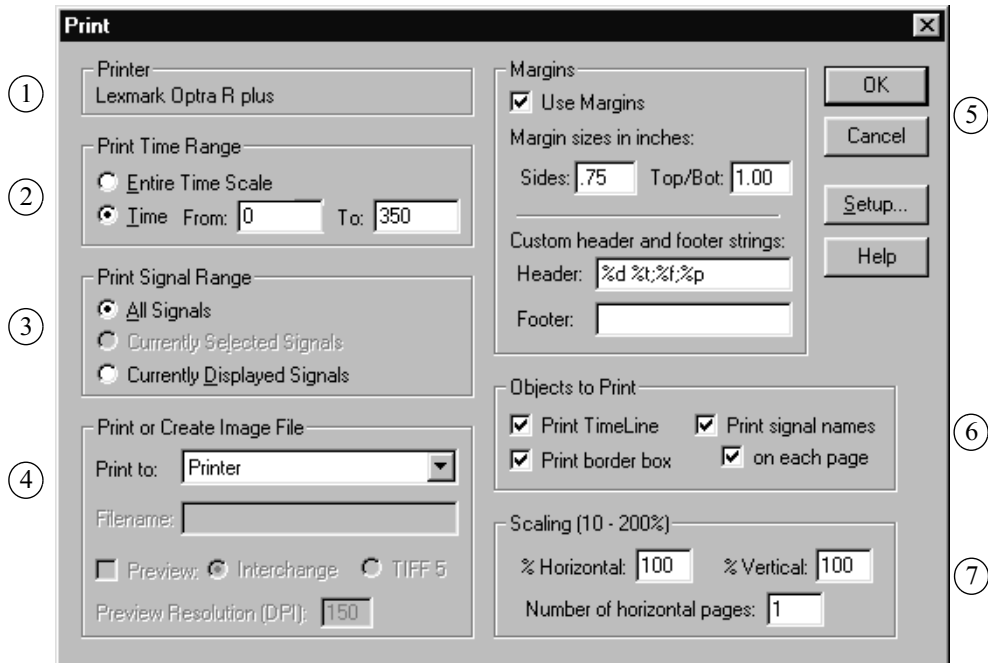

Figure 9.1 Print Dialog
- Choose the **File > Print Diagram** menu option in the timing window. This will open the *Print* dialog (see Figure 9.1 on the following page).